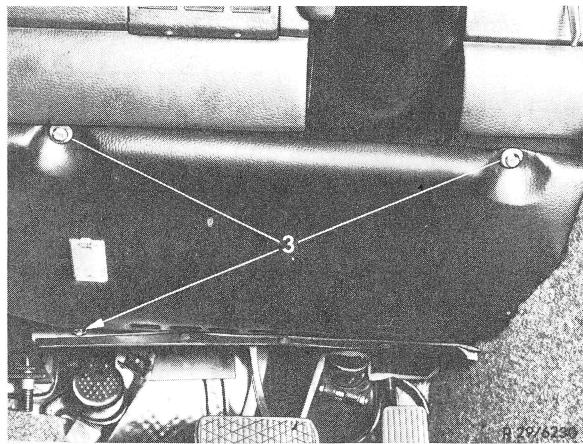

Fig. 4
**5** Unscrew cover underneath instrument panel in legroom (3) and pull downwards. Push out legroom light (4), remove plug and pull cable from cover (Fig. 4 and 5).
**12** Introduce legroom cover and screw down (Fig. 4).